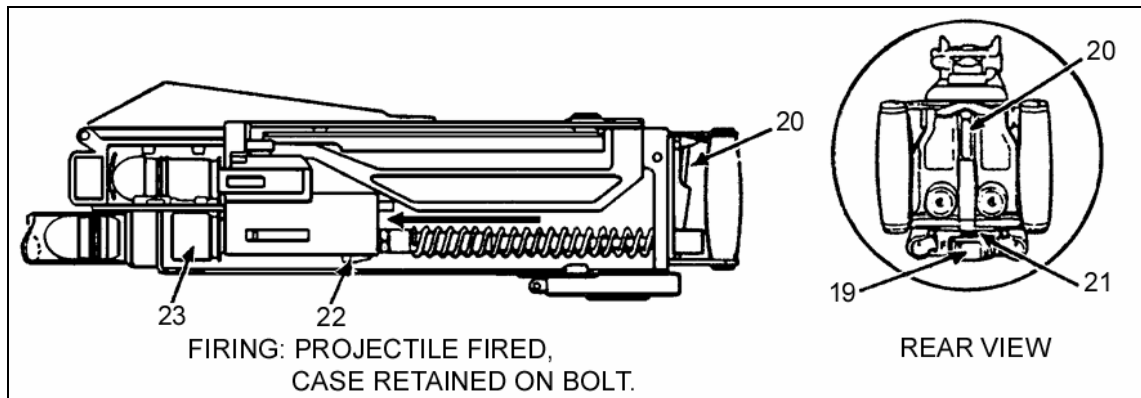

Figure 2-4. Firing cycle.
d. **Firing Cycle.** The safety switch is on F (FIRE). Pressing the trigger (20) depresses the tip of the receiver sear (21). The receiver sear disengages the bolt sear (22), which releases the bolt forward under spring pressure with a round in the bolt fingers. The
cocking lever hits the forward end of the left receiver rail slot, forcing the lever to the rear. The bolt sear hits a plate in the bottom of the receiver, which pushes the firing pin sear up to release the firing pin. A combination of the bolt's inertia and pressure from the firing pin spring drive the firing pin forward. The tip of the firing pin detonates the primer. The round is not completely inside the chamber at the moment the weapon is fired. The cartridge case, held by the bolt fingers, protrudes from the chamber (23). The explosion forces the projectile down the bore. See Figure 2-4.